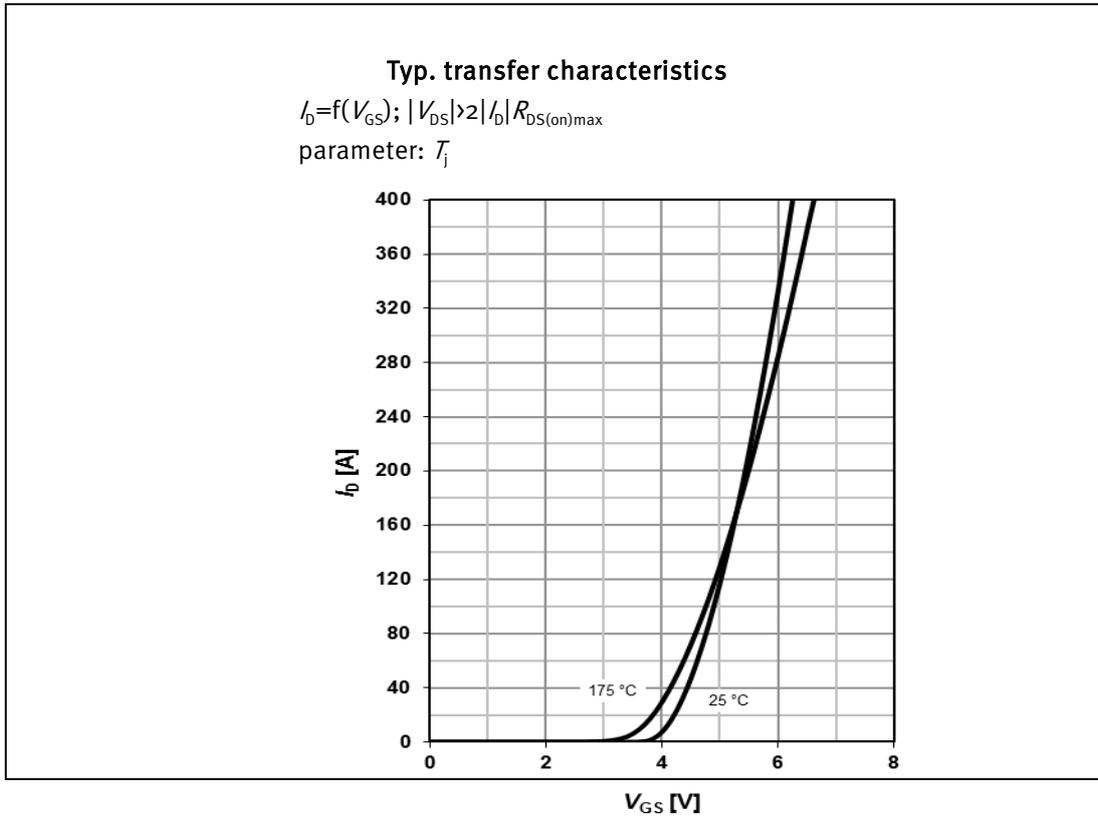

Figure 11 Typical transfer characteristics $I_D=f(V_{GS})$
This diagram shows the typical drain current as a function of the applied gate-source voltage. Normally the graphs at different junction temperatures are given. For example, Figure 11 has one curve at 25°C and the other at 175°C . All the graphs should intersect at one point, the so-called temperature stable operating point.
The forward transconductance (g_{fs}) can be calculated from the typical transfer characteristics diagram from Figure 11 using eq. (8).